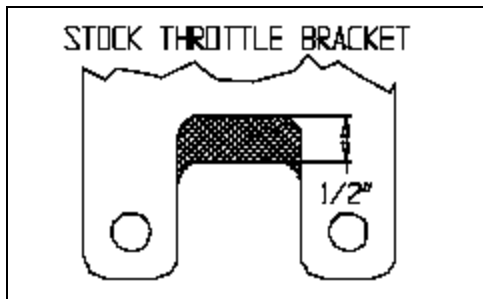
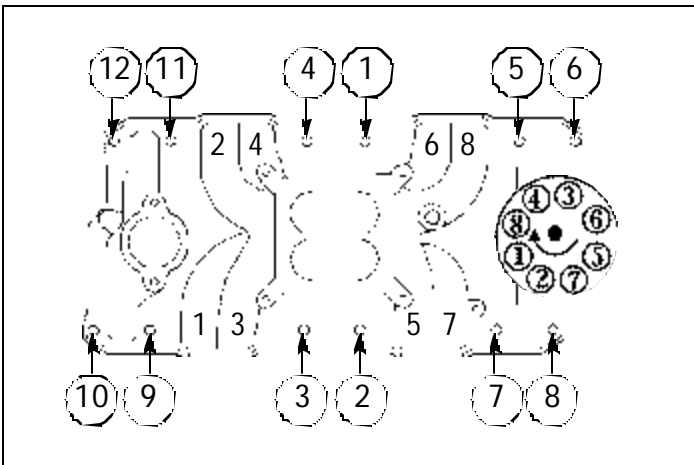

Figure 1
Figure 2 - Pre-1995 Manifold Bolt Torque Sequence
- **THROTTLE BRACKETS:** Due to the design of Performer manifolds, the throttle and kickdown bracket on some vehicles may require modification to fit. See figure 1 for guidelines or purchase our #8031, 8030 or 8036 throttle, cruise, and kickdown linkage brackets for pre-1995 cylinder heads. On Vortec or E-Tec cylinder head applications, purchase throttle bracket #8032
- 5a) Install the intake manifold and hold-down bolts. On applications with pre-1995 cylinder heads, apply a small amount of silicone to the threads of the eight inner bolts (1,2,3,4,5,7,9 & 11 in Fig 2) to prevent oil weepage, as generally these are not blind holes in the cylinder head. Torque all of the manifold bolts in two steps by the sequence shown in Figure 1 to 25 ft/lbs.